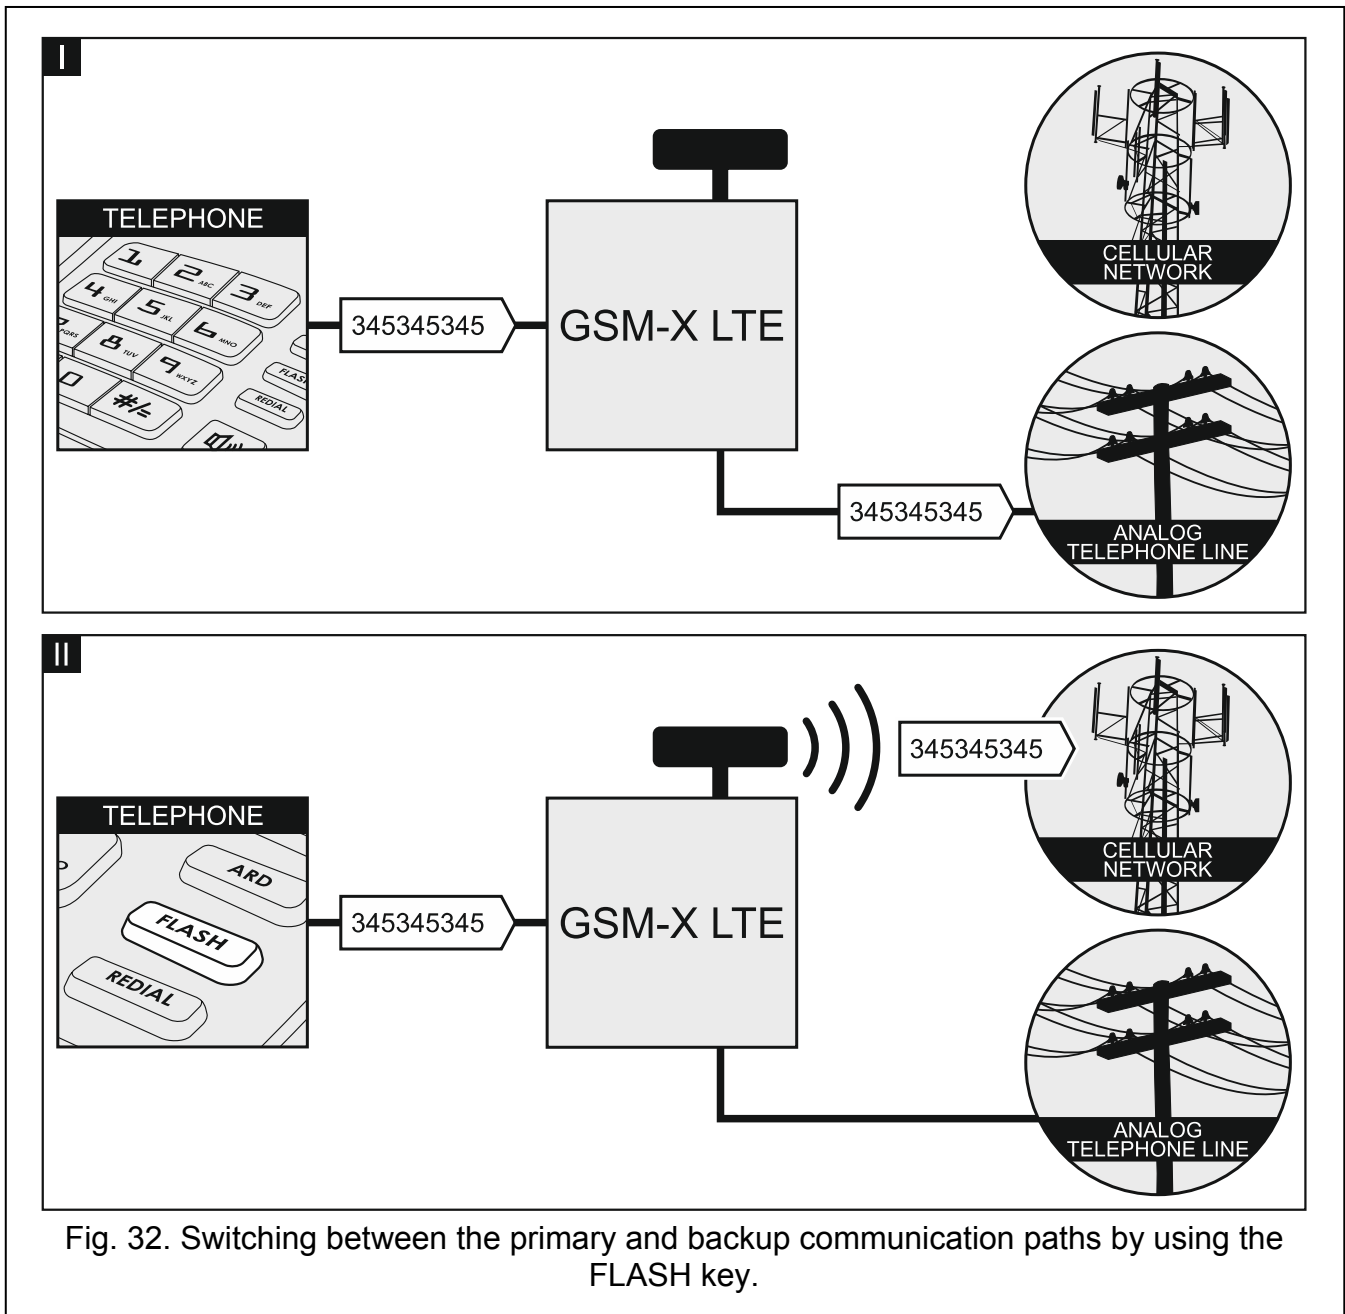

Fig. 32. Switching between the primary and backup communication paths by using the FLASH key.
**Flash switches between GSM and PSTN** – if this option is enabled, it is possible to switch between the primary and backup communication paths by using the FLASH key on the telephone connected to the telephone line output. To define the primary communication path, use the “GSM as a primary telephone line” option. In the example shown in Fig. 32, analog telephone line is used as the primary path. If, after picking up the receiver, before dialing the number, you press the FLASH key, the backup path will be used, i.e. cellular telephone (Fig. 32-II).